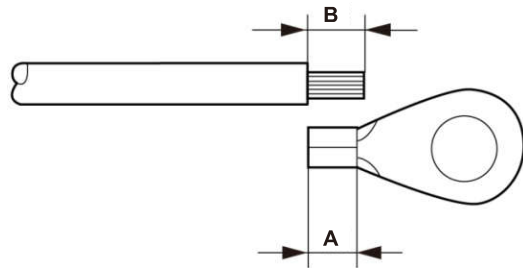

Figure 5.12 Suitable length
3. Strip the ground cable insulation to a suitable length(see Figure 5.12).